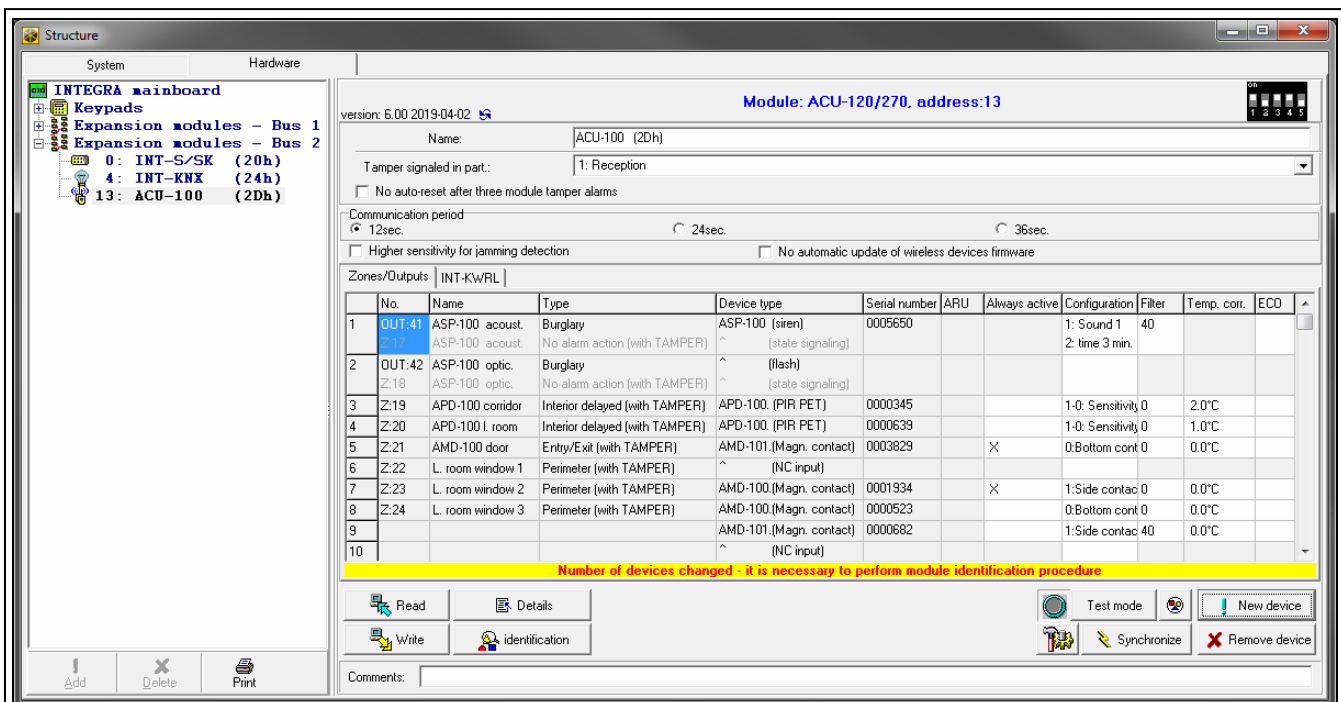

Fig. 9. DLOADX program: information displayed after registration of a new device to the controller connected to the INTEGRA / INTEGRA Plus control panel.
10. Click on the “identification” button (see Fig. 9). The new wireless zones / outputs will not be available in the alarm system until the procedure of expander identification is finished.